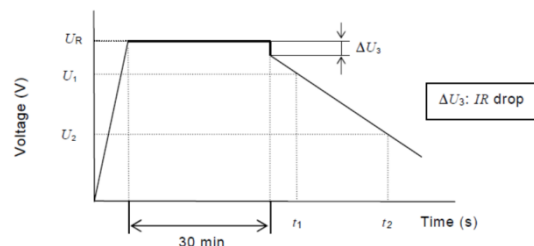

Figure 2 – Voltage characteristic between capacitor terminals
(1) Turn the switch S to the d.c. power supply, and unless otherwise specified in the individual standards, apply voltage and charge for 30 min after the constant current (3 mA)/constant voltage power supply has achieved the rated voltage
(2) After a charge for 30 min has finished, change over the switch S to the constant current (3 mA) discharger, and discharge with a constant current.
(3) Measure the time t_1 and t_2 where the voltage between capacitor terminals at the time of discharge reduces from U_1 (4.4 V) to U_2 (2.2 V) as shown in Figure 2, and calculate the capacitance value by the